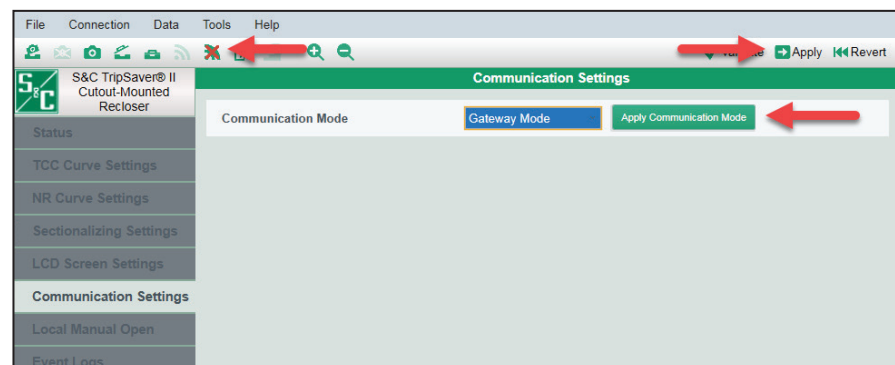

Figure 1. Enabling Gateway Mode in the TripSaver II recloser.
- STEP 3.** Click on the **Apply Communication Mode** button. **Note:** The **Apply Communication Mode** button will not apply any changes made on any other menu screens. If changes have been made to another menu screen, such as the *TCC Curve Settings* screen, click on the **Apply** button, see Figure 1.
- STEP 4.** Click on the **Apply Communication Mode** button. **Note:** The **Apply Communication Mode** button will not apply any changes that have been made on any other menu screens. If changes have been made to another menu screen, such as the *TCC Curve Settings* screen, click on the **Apply** button. See Figure 1 on page 7.